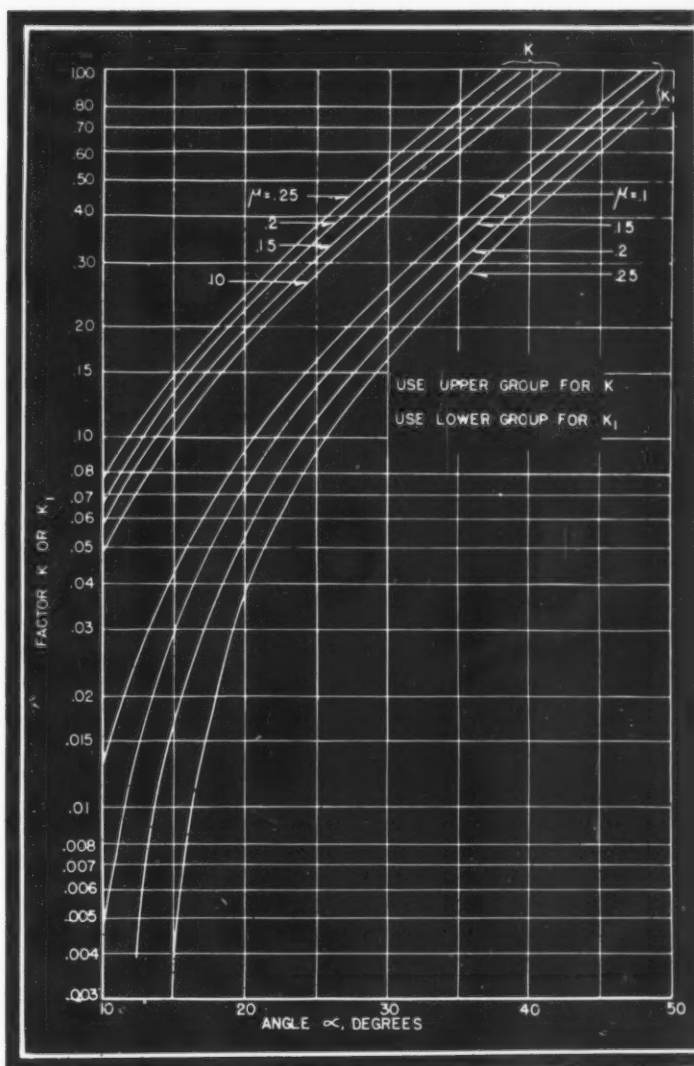

Fig. 7—Curves for finding factors  $K$  and  $K_1$  in formulas
Values of  $K_1$  are plotted for convenience in the lower group of curves of Fig. 7.
As an example of the application of these formulas in practical design, a ring spring of the following dimensions as tested by Wikander (1) may be considered:  $A_o=A_i=$  .584 in.2,  $r_i=4.42$  in.,  $r_o=4.74$  in.,  $r_m=4.58$  in.  $\tan \alpha=$  .25,  $\alpha=14^\circ$  (approx.),  $E=29 \times 10^6$  psi,  $n_o=n_i=9$ ,  $n=18$ . Tests on this spring indicated a coefficient of friction  $\mu=.12$ . From Fig. 7, for  $\alpha=14^\circ$  and  $\mu=.12$ , by inter-